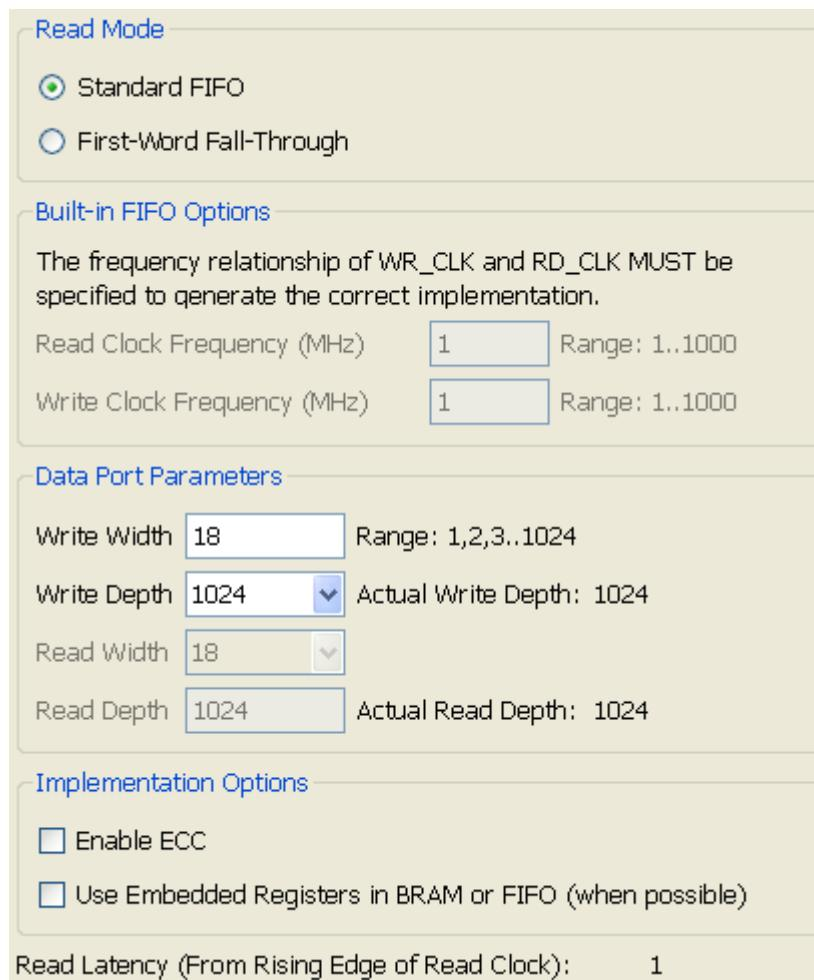
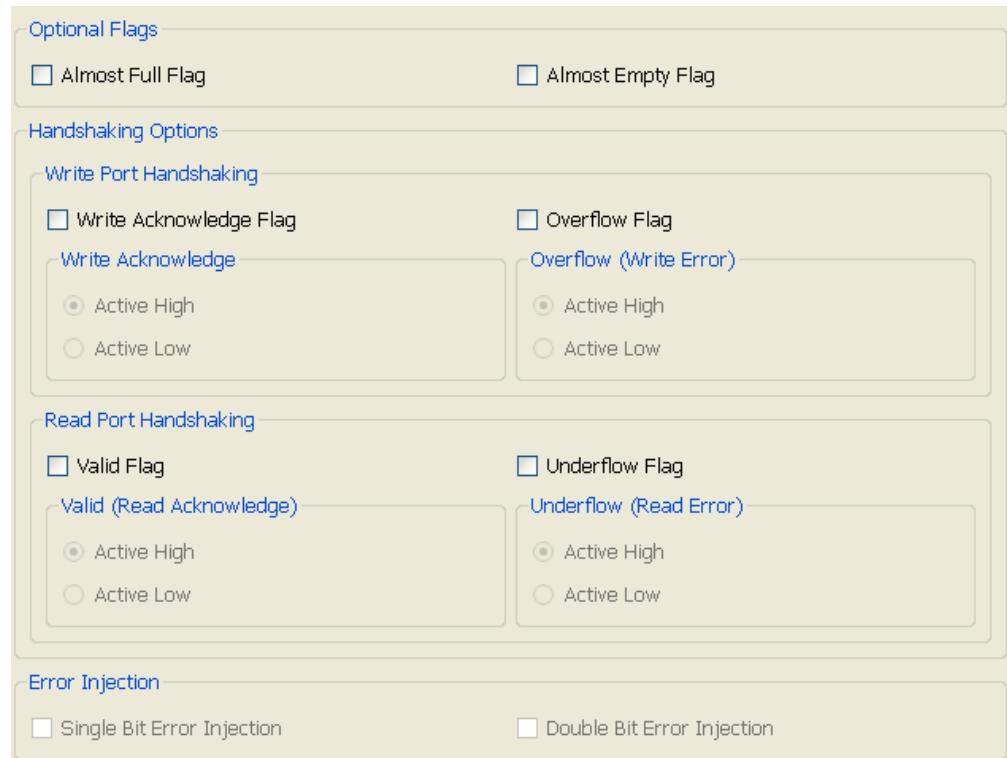

Figure 8-5: Native Interface FIFO: Page 2 - Read Mode, Built-In FIFO, Data Port Parameters and Implementation Options
**Figure 8-8: AXI4 Interface FIFO: Page 4 - ECC Selection**
Figure 8-5 shows the Native Interface FIFO Page 2 screen to set the read mode, built-in FIFO options, data port parameters, and implementation options.
Figure 8-6, Figure 8-7 and Figure 8-8 show the equivalent settings of Figure 8-5 in the AXI4-Stream GUI.
- The ECC can be enabled through Enable ECC in Page 4 of the AXI4-Stream FIFO GUI, as shown in Figure 8-8.